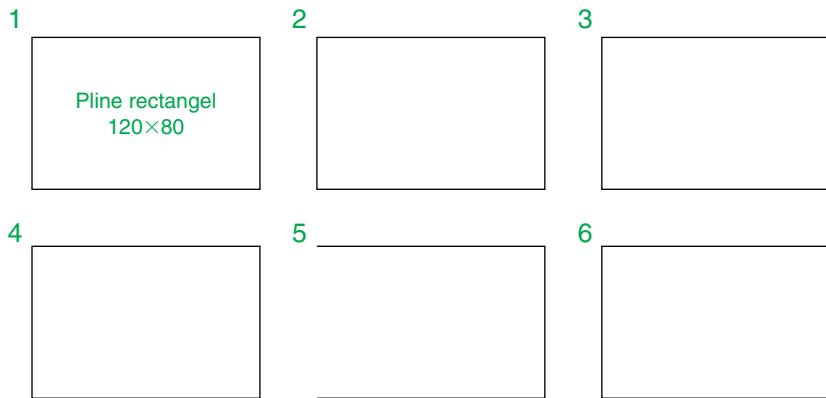

Fig. 3.41 Examples – Edit Polyline – the plines to be edited
- With the **Polyline** tool construct the outlines 1 to 6 of Fig. 3.41.